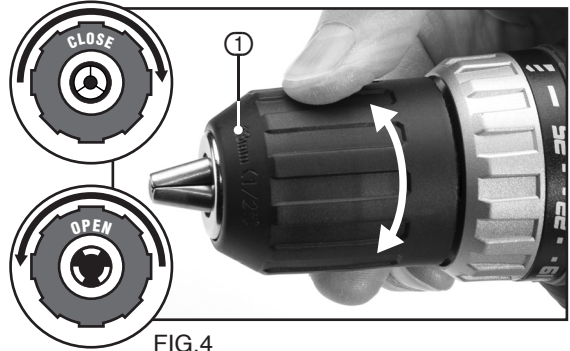

FIG.4
9.1 INSTALLING AND REMOVING BITS – FIG. 4